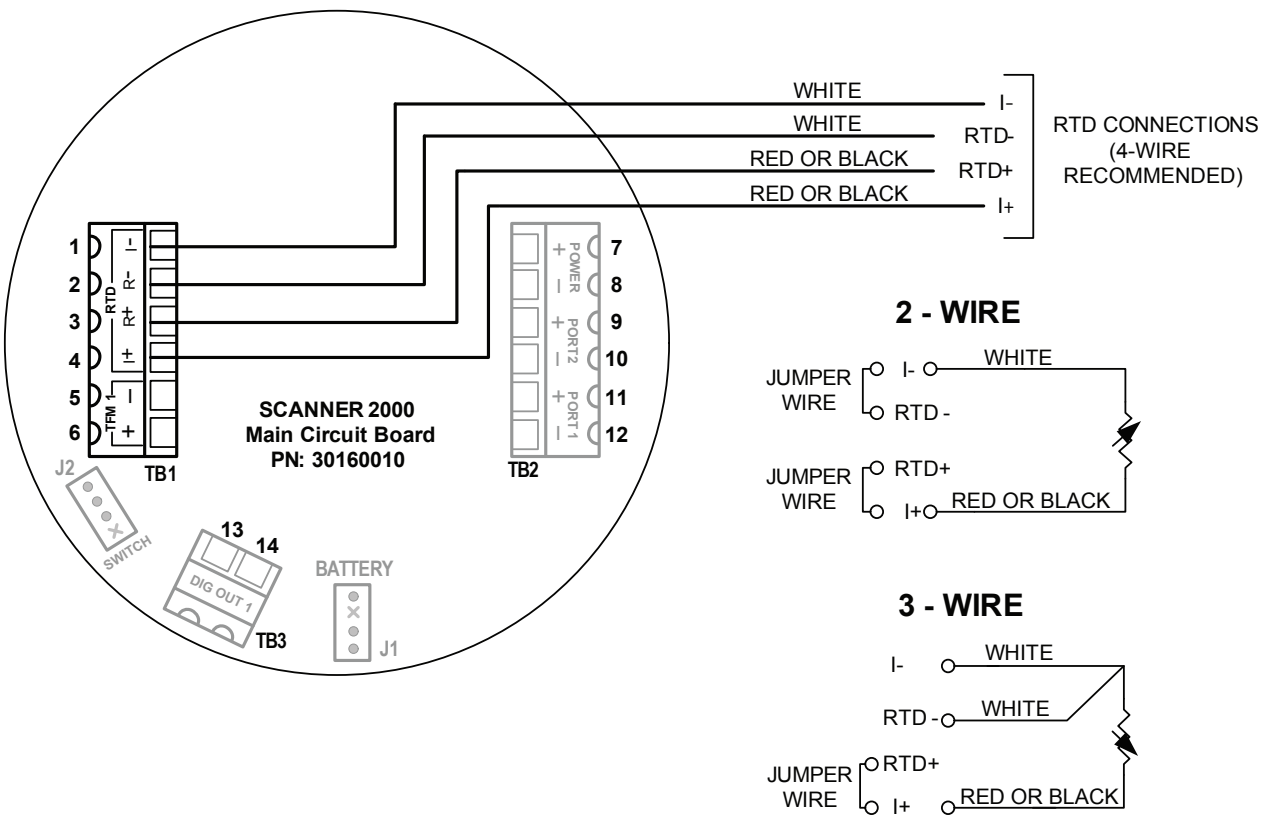

Figure 3.5—Process temperature input wiring
7. Connect the process temperature input wiring to terminal block TB2, if appropriate. See Figure 3.5, page 64.
The RTDs described in Appendix A of this manual are recommended for measuring temperature for use in temperature-compensated gas and liquid calculations, though a 2- or 3-wire RTD may prove functional. Wiring is essentially the same for all three models, though wire color may vary as indicated. Wire as shown in Figure 3.5.